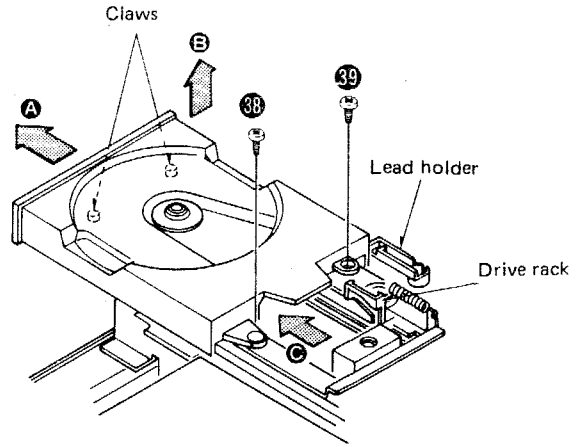

Fig. 11
3. Remove the disc holder setscrews [Fig. 11: 38, 39].
3. Remove the 6 setscrews [Fig. 11: 40 ~ 45] on the right and left sides of loading guide holder.